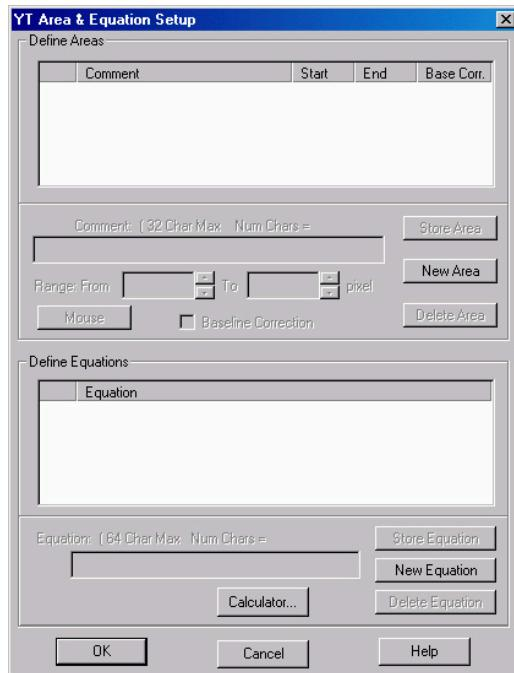

Figure 129. Y:T Area and Equation Setup dialog box
2. Select **Y:T Analysis** on the **Acquisition** menu. This will open the **Y:T Area and Equation Setup** dialog box (Figure 129).